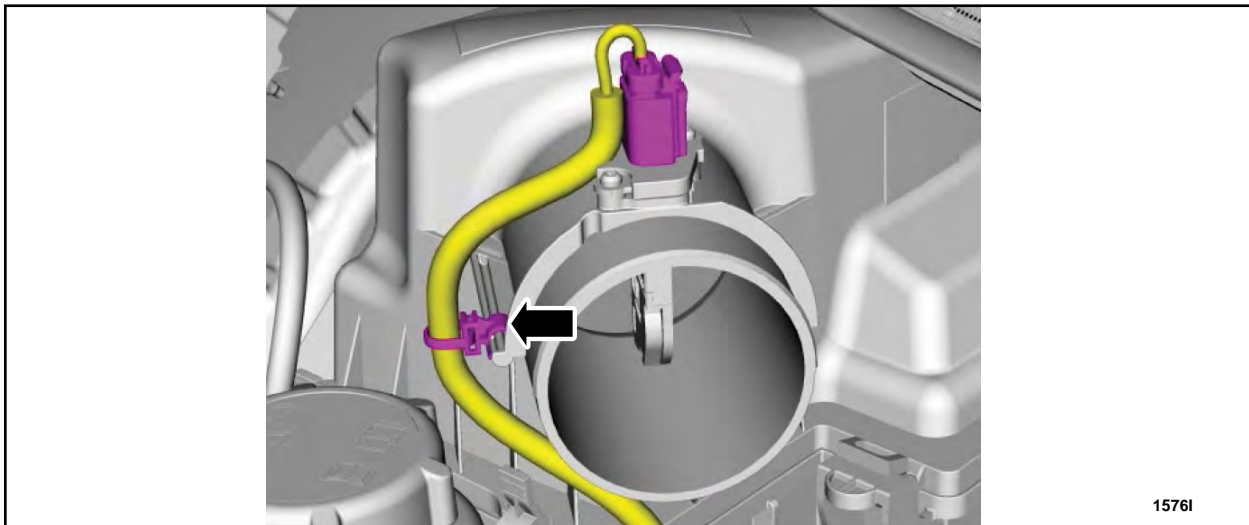

FIGURE 6
7. Disconnect the electrical connector and detach the wiring harness retainer from the air filter cover. See Figure 6.
14. Connect the electrical connector and attach the wiring harness retainer to the air filter cover. See Figure 6.